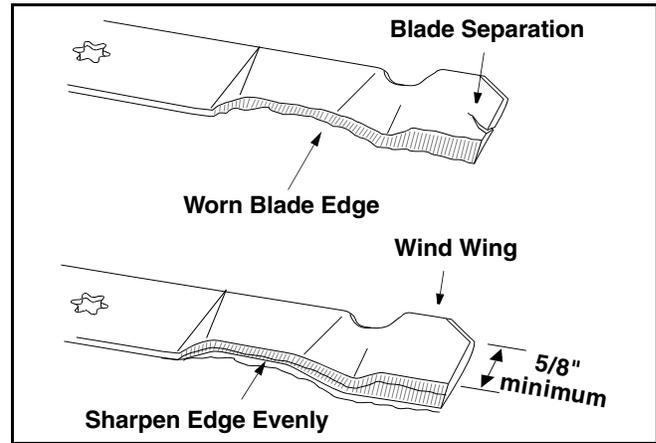

Figure 21
To properly sharpen the cutting blades, remove equal amounts of metal from both ends of the blades along the cutting edges, parallel to the trailing edge, at a 25° to 30° angle. See Figure 21.
**IMPORTANT:** If the cutting edge of the blade has already been sharpened to within 5/8" of the wind wing radius, or if any metal separation is present, replace the blades with new ones. See Figure 21.